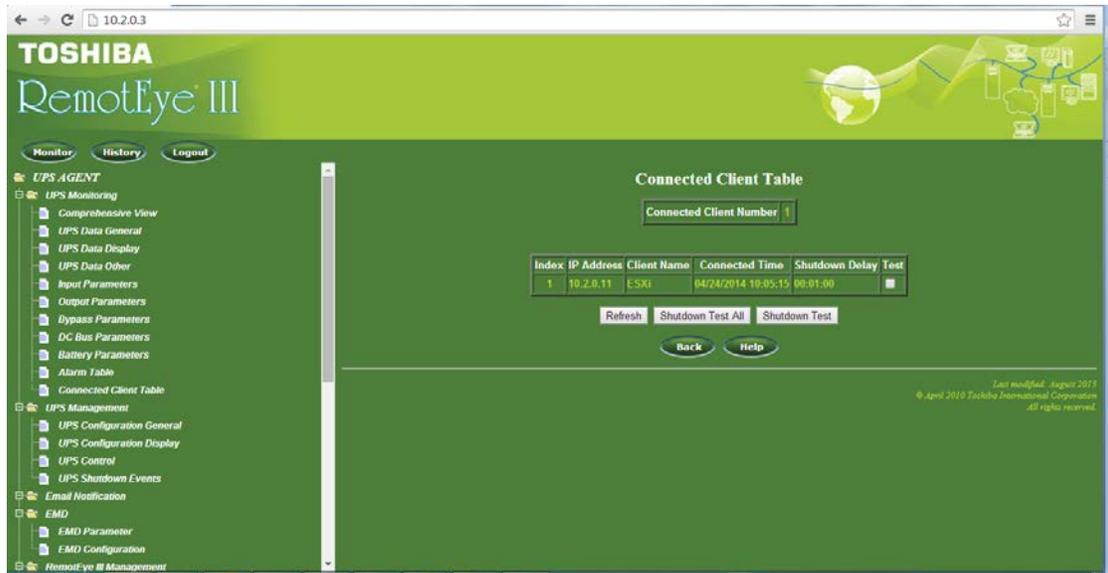

Figure 0-8 Connected Client Table in RemotEye III
- Verify that RemotEye and ESXi server are communicating. Go to RemotEye web interface and look for the **"Connected Client Table"** web page. Open the **Connected Client Table** web page. (See Figure 0-8)